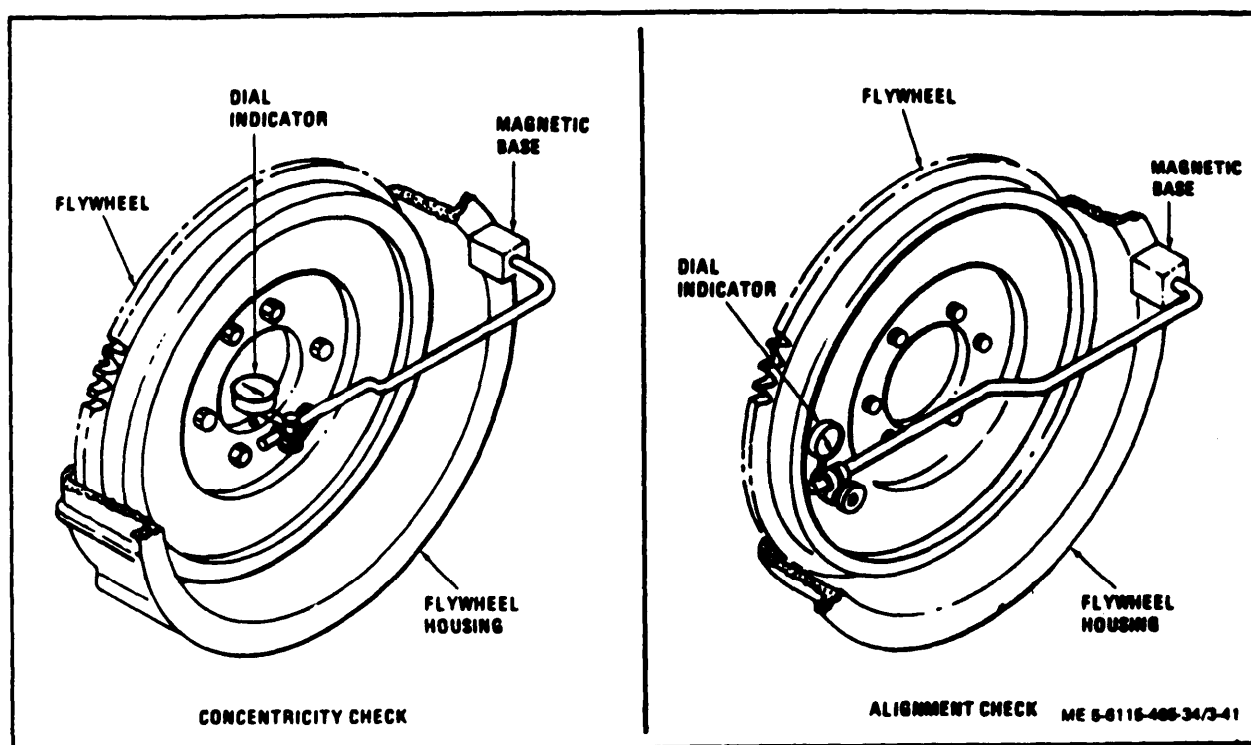

Figure 3-41. Checking Flywheel Concentricity and Alignment
(1) Turn crankshaft to dead center (DC) position.
(2) Attach a dial indicator to flywheel housing and position so that foot rides on inner face of pilot bore (see figure 3-41).
(3) Set dial indicator pointer to zero position.
(4) Slowly rotate crankshaft one complete revolution.
(5) Concentricity of pilot bore shall not vary 0.005 inch total reading.
(6) Position dial indicator so that foot rides on outer face of flywheel (see figure 3-41).
(7) Set dial indicator pointer to the "zero" position.
(8) Slowly rotate crankshaft one complete revolution.
(9) Alignment of flywheel shall not vary more than 0.005 inch total reading.
(10) Replace flywheel if the above test requirements cannot be met.